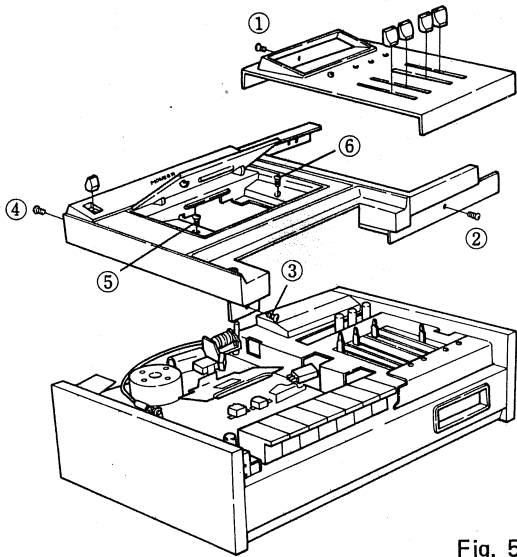

Fig. 5
2. Remove screw ① in Fig. 5, then remove the panel.
2. Remove screws ② to ⑥ in Fig. 5.